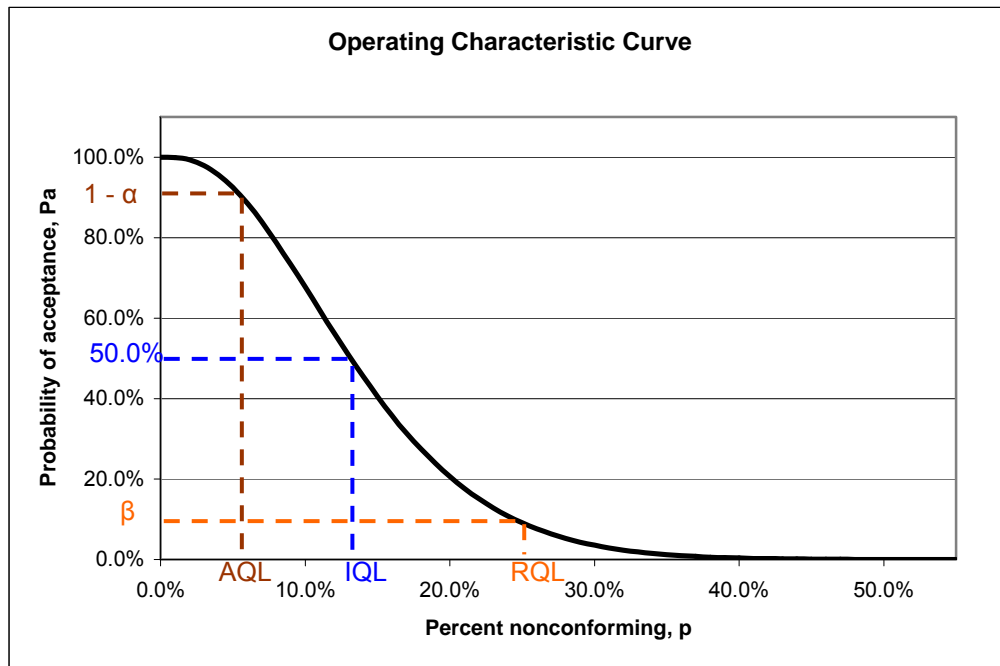

Figure 2 OC Curve
A sampling plan has a probability of acceptance that changes as the product changes. The Operating Characteristic (OC) curve shows this relationship. The two points described are points on the OC as shown in Figure 2.